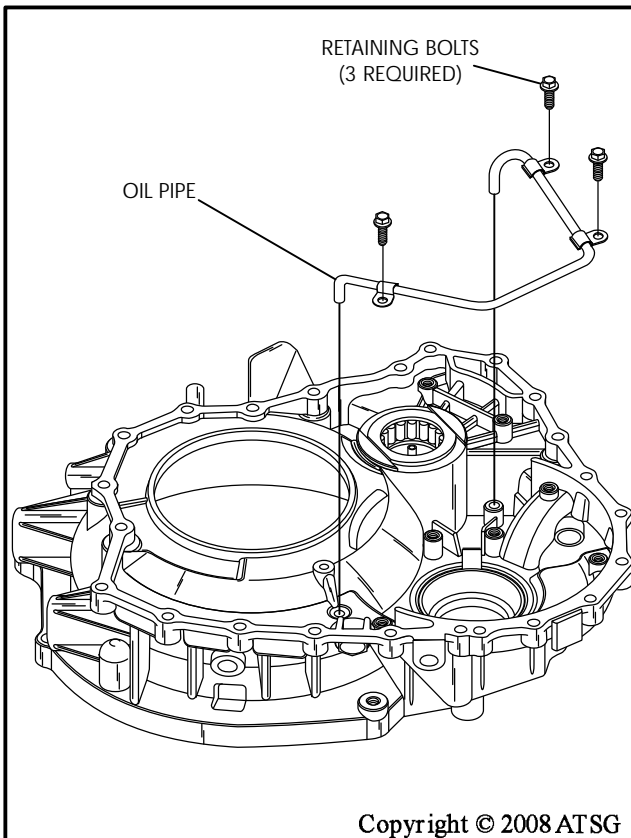

Figure 92
4. Install the converter housing oil pipe, as shown in Figure 92, if it was removed.